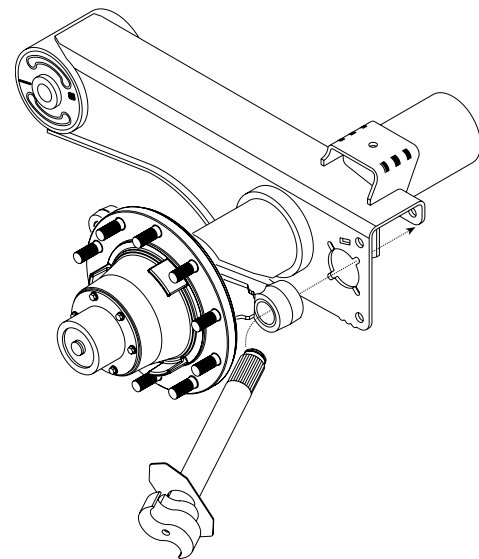

Figure 15: Installing the S-cam assembly
6. **Angle and slide** this S-cam assembly through the spider and beam (Figure 15). Even with the hub in place there is enough clearance to angle and insert the S-cam as long as the spider S-cam bushing has not been installed.